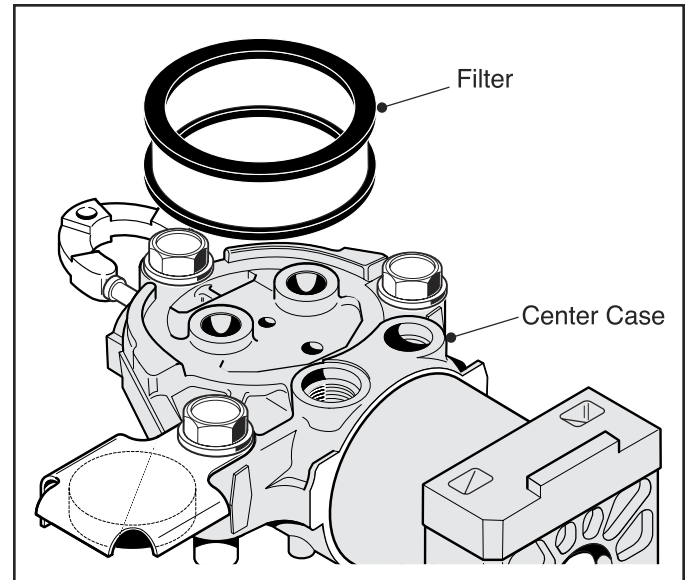

Fig. 7, Filter Removal
1. Remove the Filter from the Center Case and discard. (Fig. 7)